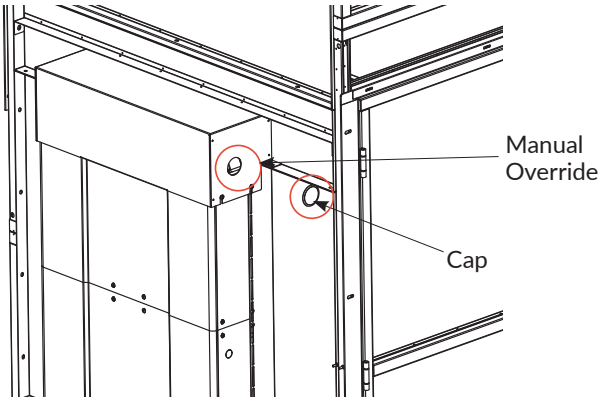

Figure 6-9
5. Remove the plastic cap to access the manual override. *See Figure 6-9.*